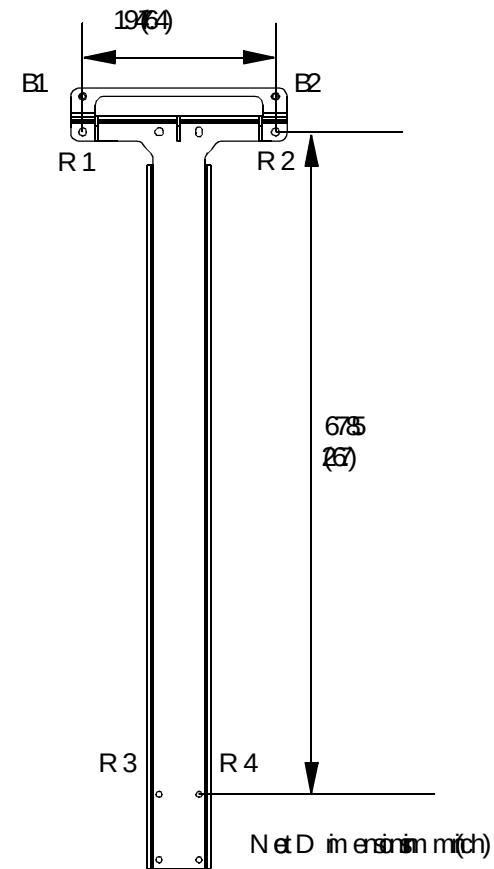

Figure 3 Main unit frame
2. Mark the fixing points on the wall using the anchor screw hole R3 and R4 in Figure 3 on the mounting frame.
7. Insert the M4 x 20 mm Allen screws into the upper fixing holes of the mounting frame (B1 and B2 in Figure 3).
10. Tighten the upper MU fixing screws (B1 and B2 in Figure 3).